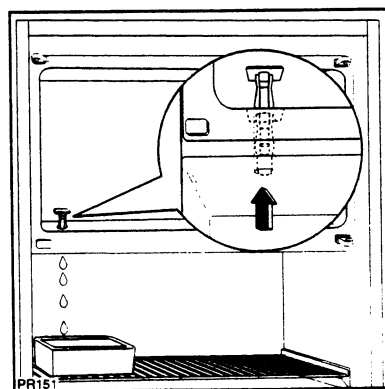

Fig. 15
- turn the thermostat dial to the «OFF» position (O) or disconnect the appliance from the mains.
- Leave the door open, place a basin on the top shelf of the refrigerator compartment, under the drain hole, lift the plug as shown in the figure 15.